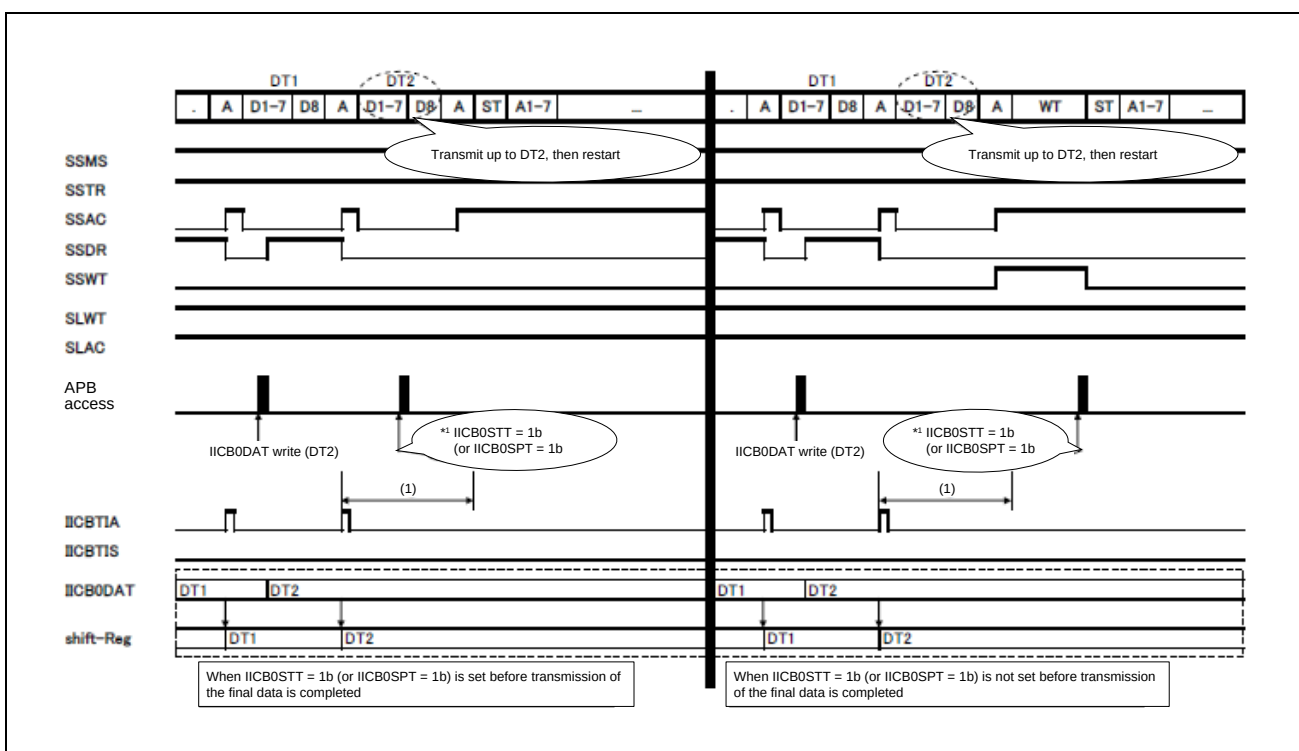

Figure 29.6-10 Operations for Final Data Processing in Transmission (IICB0SSMS = 1b & Continuous Transfer Mode)
In master operation, a restart or stop condition is issued after the completion of transmission of the final data by writing 1b to IICB0STT or IICB0SPT after the IICBTIA interrupt following writing of the final data (with the timing of *¹ in **Figure 29.6-10** when a restart or stop condition is set).
Figure 29.6-10 shows the operations for final data processing in the case of master operation.
When both writing 1 to IICB0STT and writing 1b to IICB0SPT proceed in the interval (1) in **Figure 29.6-10**, the subsequent setting is enabled and the previous setting is disabled.